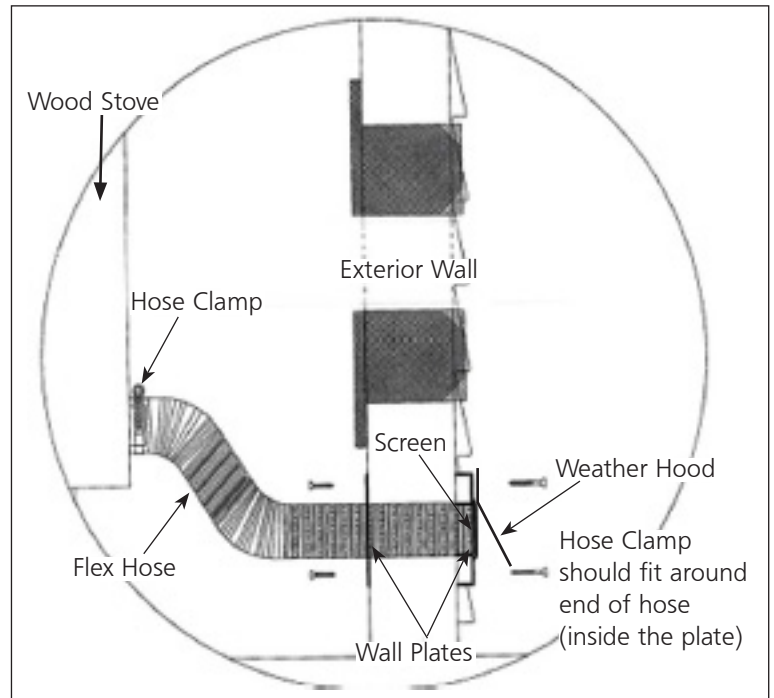

Figure 1
2. Position one end of the flex hose over the Intake Air Tube of your wood unit. Apply the first hose clamp over this end of the flex hose and tighten it. See Figure 1.